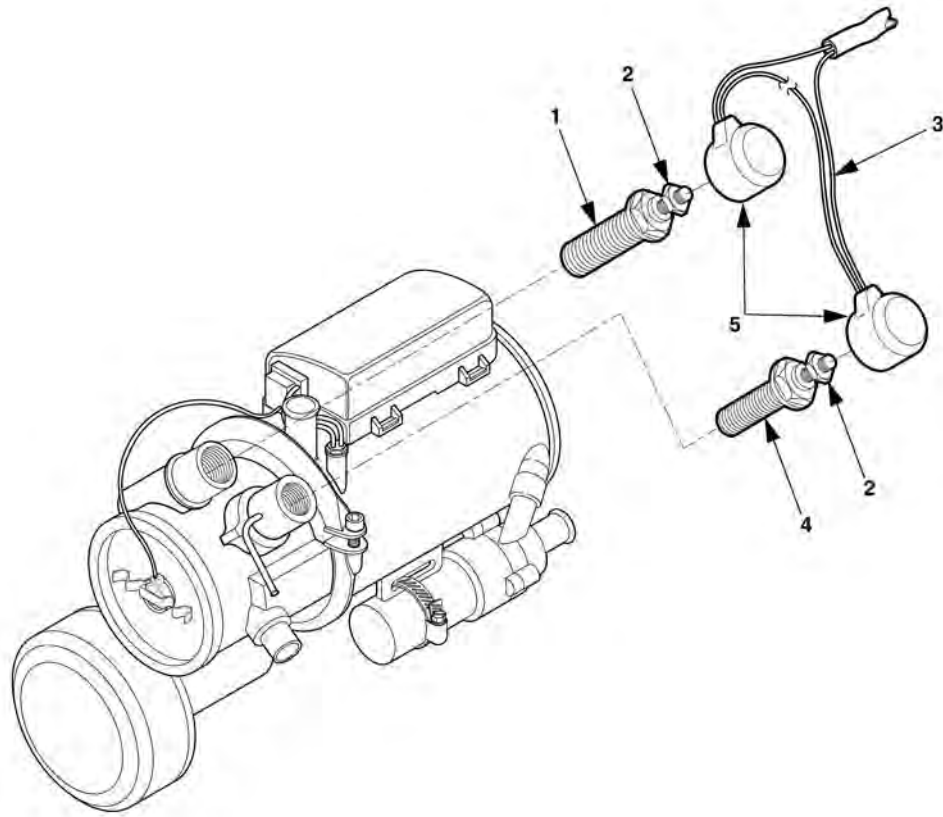

Figure 4-28. Igniter/Glow Plug And Resistor Maintenance.
2. Remove caps (5), Figure 4-28, from igniter/glow plug (4) and resistor (1).
3. Disconnect wires from igniter/glow plug (4) and resistor (1).
4. Check continuity between igniter/glow plug (4) and ground and the resistor (1) and ground.